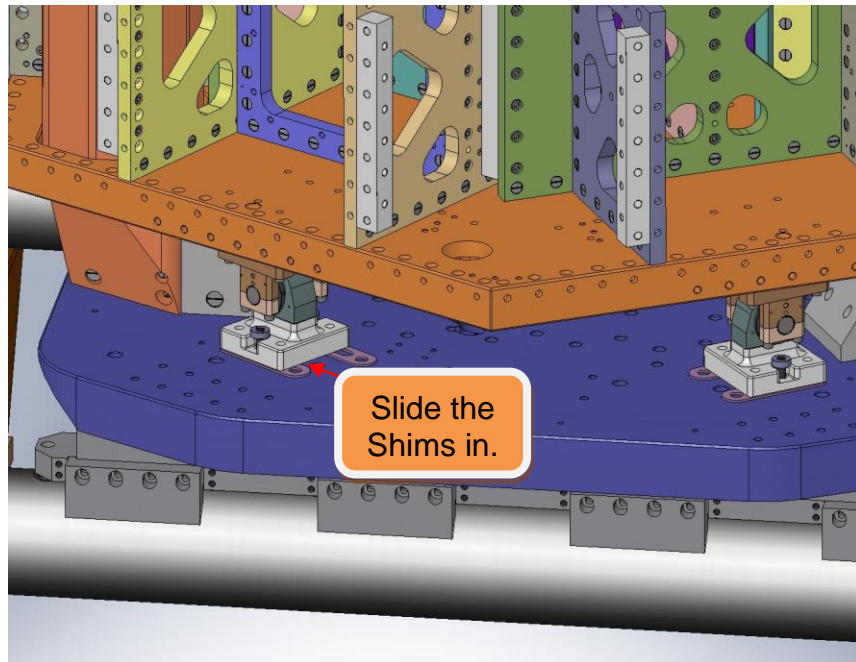
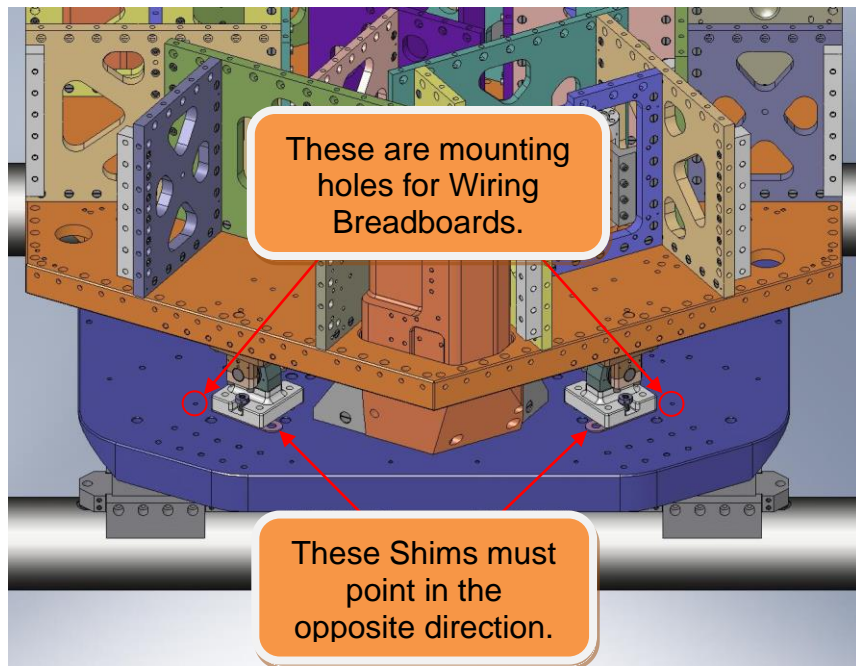

Figure 4.80. Slide (8) .125" Shims underneath the Locker Bases. Make sure the Shims slide around the bosses on the bottom of the Locker Bases.
Figure 4.81. Two of the Shims must be inserted “backwards”, or they will interfere with the Wiring Breadboards, which are installed later.
- Slide (8) .125" **Shims** (D071141-05) between the **Locker Bases** and the **Stage 0 Base**, as shown in Figure 4.80 and Figure 4.81. The **Shims** should fit closely around the bosses on the bottom of the **Locker Bases**. *Since Stage 1 will not be level to Stage 0 when it's on the crane, first place the Shims under the lowest Base(s), then carefully lower Stage 1 until all the Shims can be inserted around the bosses.*